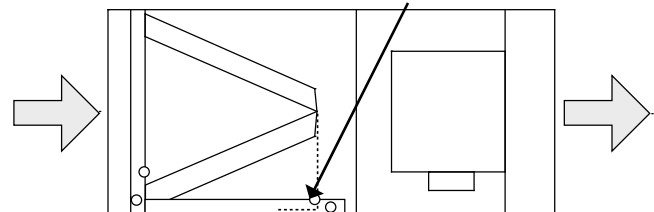

Figure 3 - Horizontal right hand discharge
12. Remove the support bracket mounted to the top plate of the 'A' coil. Rotate the 'A' coil support bracket 180° from its original position and re-attach into existing holes in the top plate of the coil. This must be done to prevent the 'A' coil from falling into the drain pan (Figure 3).
13. Move the horizontal drain pan from the left side of the 'A' coil to the right hand side of the 'A' coil. Place the 'A' coil and horizontal drain pan assembly into the cabinet so that the support bracket is resting in the horizontal drain pan as shown in Figure 3. Attach the stiffener bracket into the two holes provided in the cabinet so that the bracket is in front of the coil.